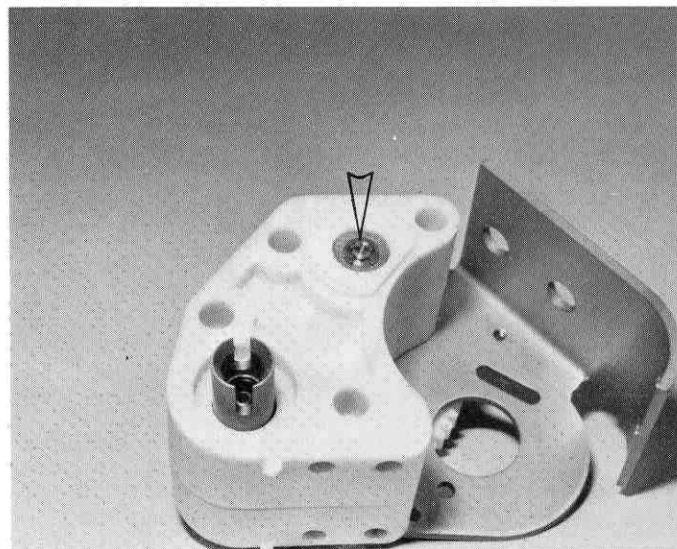

Fig. 91
□ **Fig. 91** Make sure the "E" clip is seated correctly.